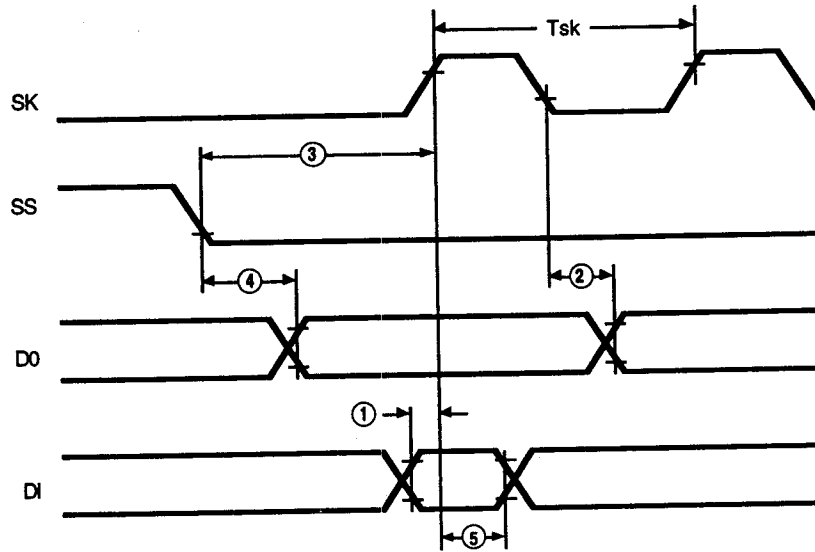
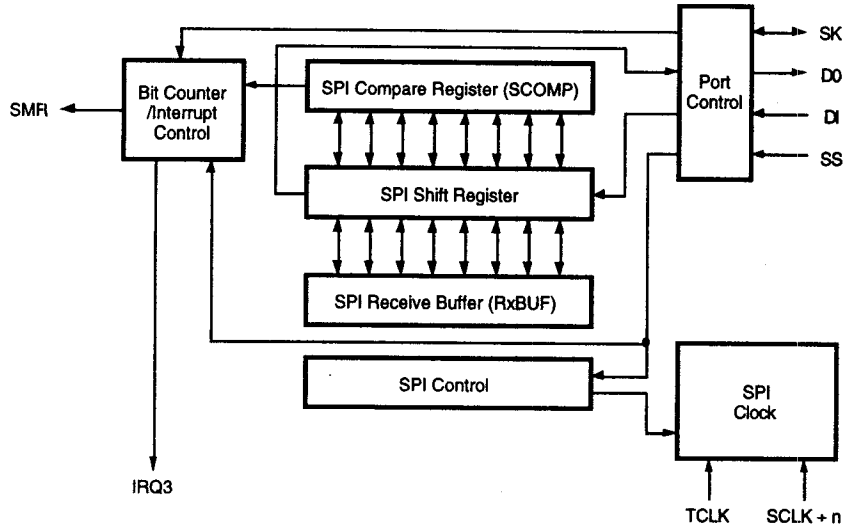

Figure 15. SPI Timing (Z86E06 Only)
Figure 16. SPI Logic (Z86E06 Only)
for clock control in slave mode, bit D1 in the SPI Control Register is used to log any RxCharOverrun (Figure 15 and Figure 16).
**Internal Address Counter.** The address of Z86E03/E06 is generated internally with a counter clocked through pin P01 (Clock). Each clock signal increases the address by one and the high level of pin P00 (Clear) will reset the address to zero. Figure 16 shows the setup time of the serial address input.